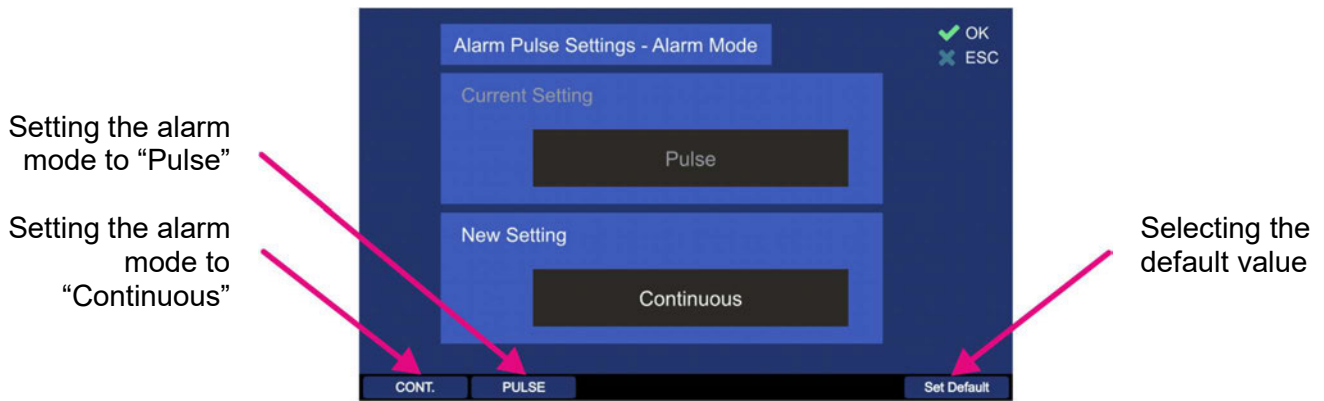

Figure 114. Alarm mode dialog
- By pressing the hotkey “Edit Value”, the dialog for changing the alarm mode of the alarm output will be opened. The handling of this dialog is shown in Figure 114.